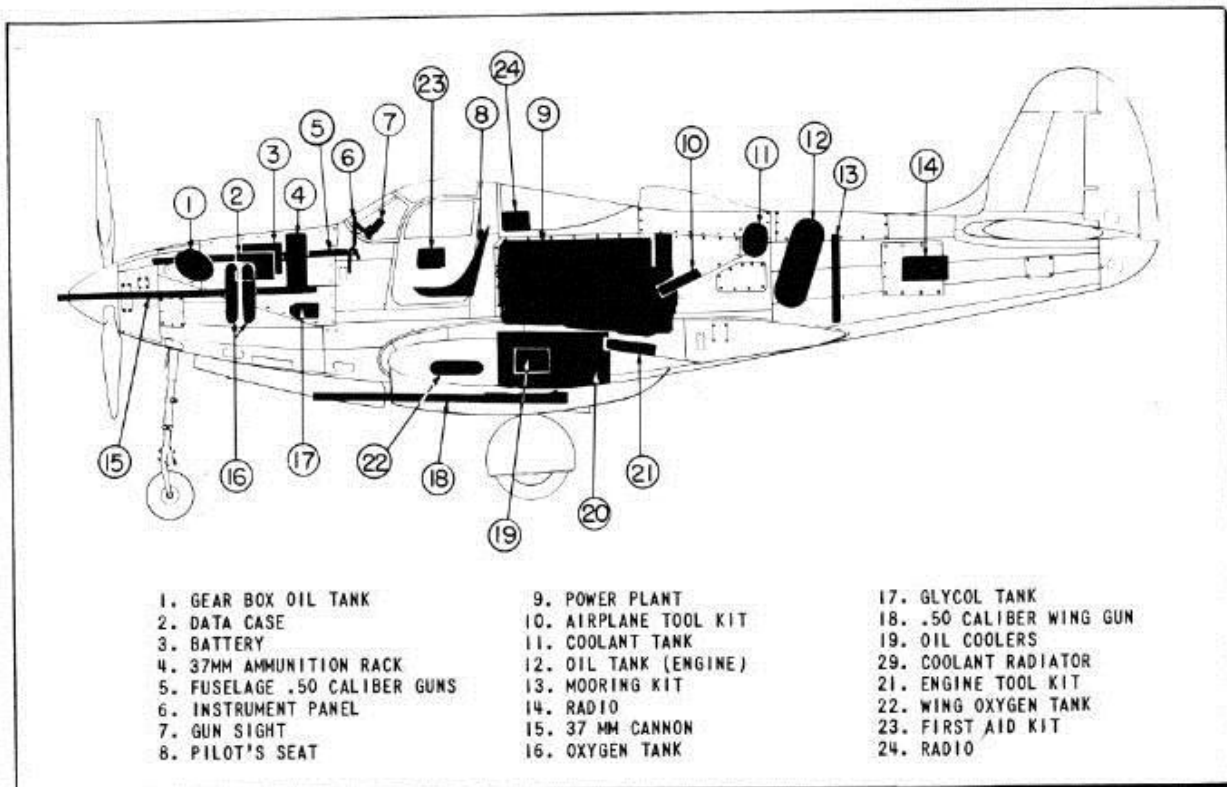

Figure 4 - General Arrangement
b. **DATA CASE.** (See figure 4.) - The data case is attached to the under side of the left-hand section of the forward fuselage gun compartment cowl.
c. **FIRST-AID KIT.** (See figure 4.) - A first-aid kit is located on the left-hand cabin door.
d. **MOORING KIT.** (See figure 4.) - A mooring kit is located on the deck of the aft fuselage.